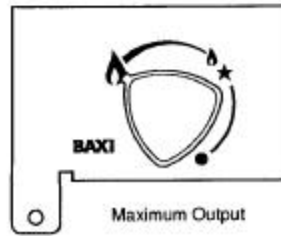

Fig. 25
4. With the burner alight, depress the control knob slightly and rotate anticlockwise to the maximum output position (🔥) (Fig. 25).